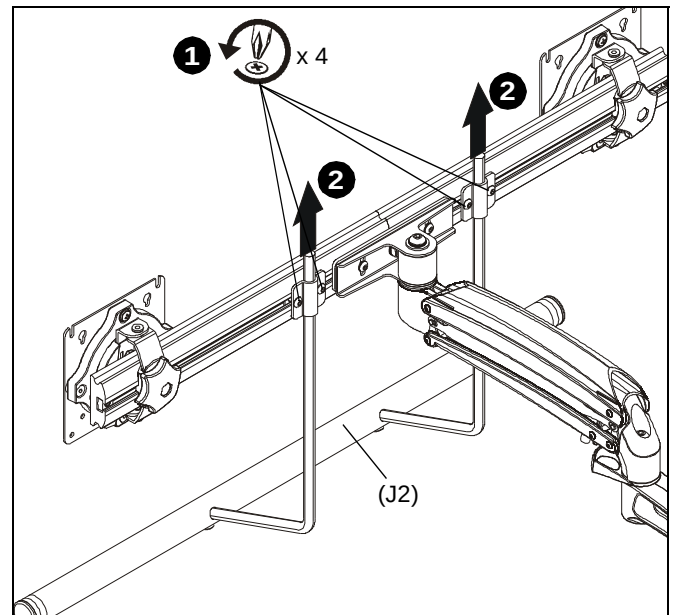

Figure 12
1. Loosen four screws securing handle brackets to K1W22/K1S22 array. (See Figure 12)
2. Install uprights of handle (J2) into handle brackets located on the back of array. (See Figure 12)